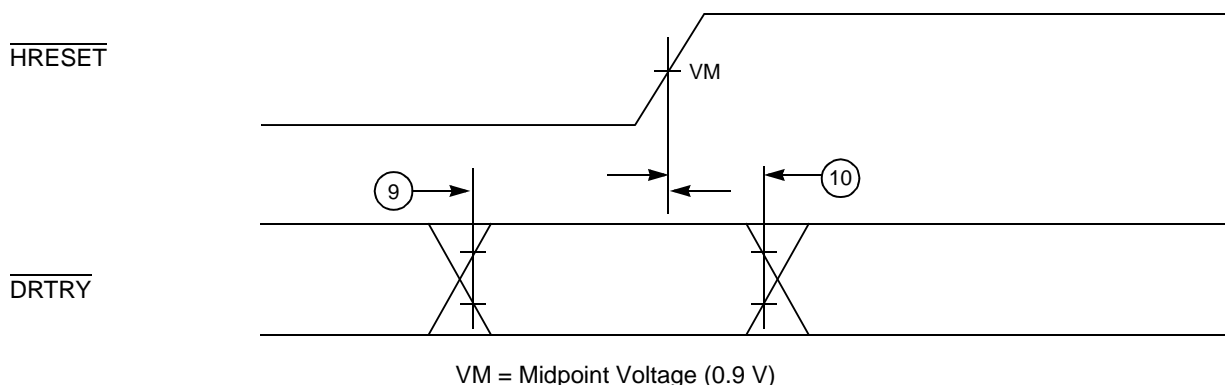

Figure 3. Mode Select Input Timing Diagram
- The setup and hold time is with respect to the rising edge of $\overline{\text{HRESET}}$ (see Figure 3).
Figure 3 provides the mode select input timing diagram for the 604e.